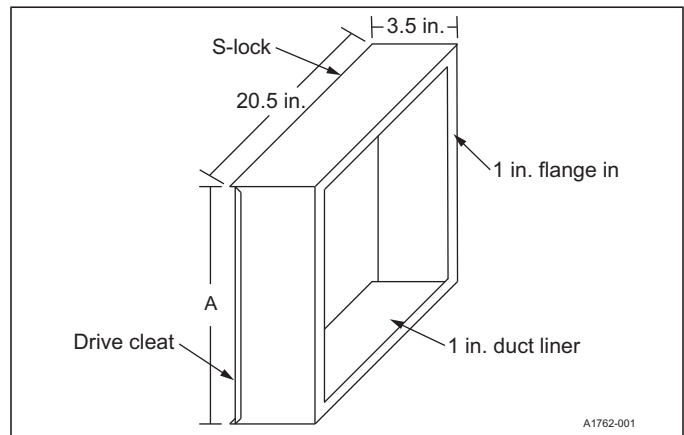

Figure 5: Duct section - modular air handler - horizontal right
3. Attach the two sections together using s-lock and drive cleats. See **Figure 5**.